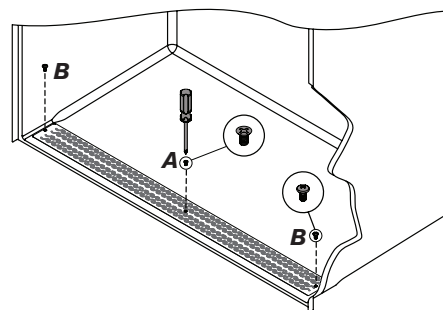

Figure 14
When all mounting holes are aligned, install the flat head screw in center hole (A). **Do not tighten.** Then install the two pan head screws in each of the end mounting holes (B). Do not tighten. Once all screws are in place, tighten screw in center first, then tighten screws in the end holes. (Figure 14)